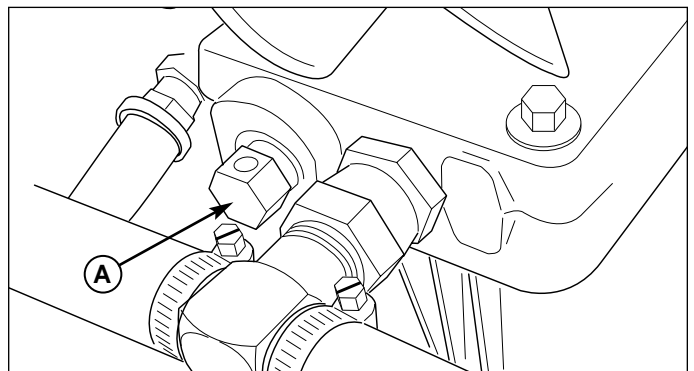

Figure 3. Hydraulic System By-Pass
3. To disengage the pumps (free-wheel position), turn the hydraulic release valves (A, Figure 3) located on the pumps COUNTER-CLOCKWISE a maximum of 2 full turns.